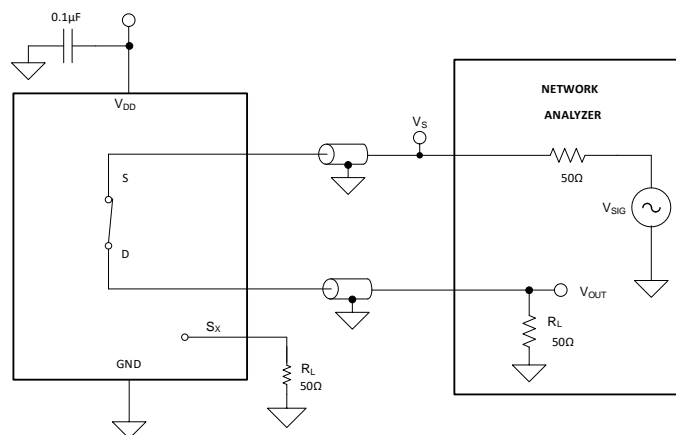

Figure 27. Bandwidth Measurement Setup
Bandwidth is defined as the range of frequencies that are attenuated by less than 3 dB when the input is applied to the source pin (Sx) of an on-channel, and the output is measured at the drain pin (D) of the device. Figure 27 shows the setup used to measure bandwidth.